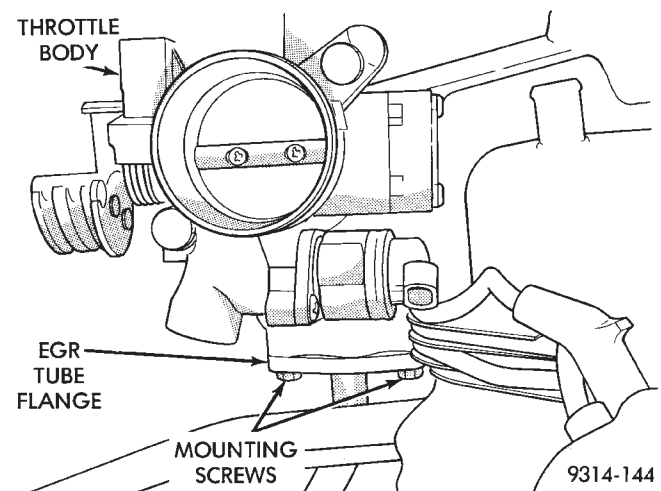

Fig. 17 EGR Tube Upper Mounting Screws
- (1) Remove EGR tube mounting screws at intake manifold plenum (Fig. 17).